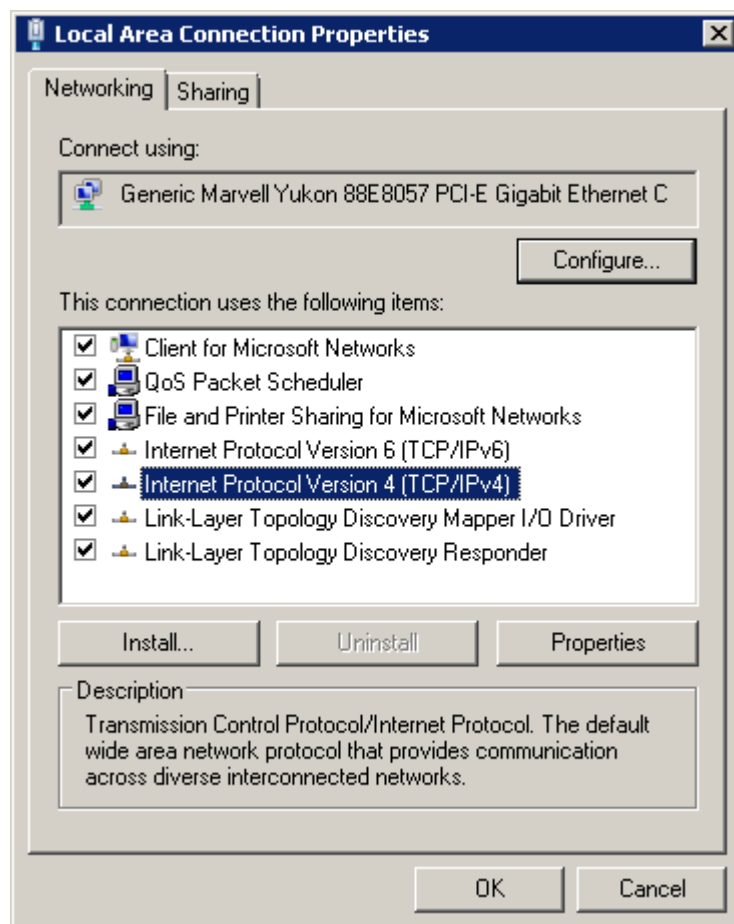

Figure 53 Local Area Connection Properties
- Step 2.** Click the **Properties** button to pop up the **Local Area Connection properties** window, as shown in Figure 53.